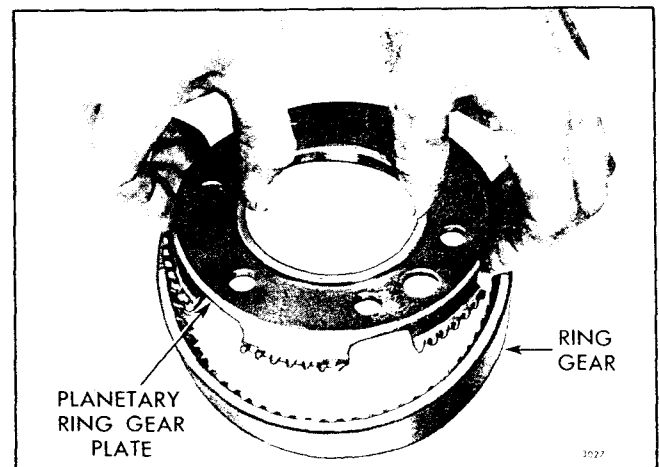

Fig. 102 - Installing Reduction Gear Planetary Ring Gear Plate in Ring Gear (2.5:1 and 3:1 Ratios)
2. On the 2.5:1 and 3:1 ratio reduction gears, install the reduction gear planetary ring gear plate (97) in the planetary ring gear (75) and the planetary ring gear plate in the reduction gear adaptor (85) as follows:
- b. Position the planetary ring gear plate over the top of the planetary ring gear. Align the splines in the outside diameter of the ring gear plate with the splines inside of the ring gear, then lower the plate straight in the ring gear as shown in Fig. 102 until it seats on the shoulder in the ring gear.